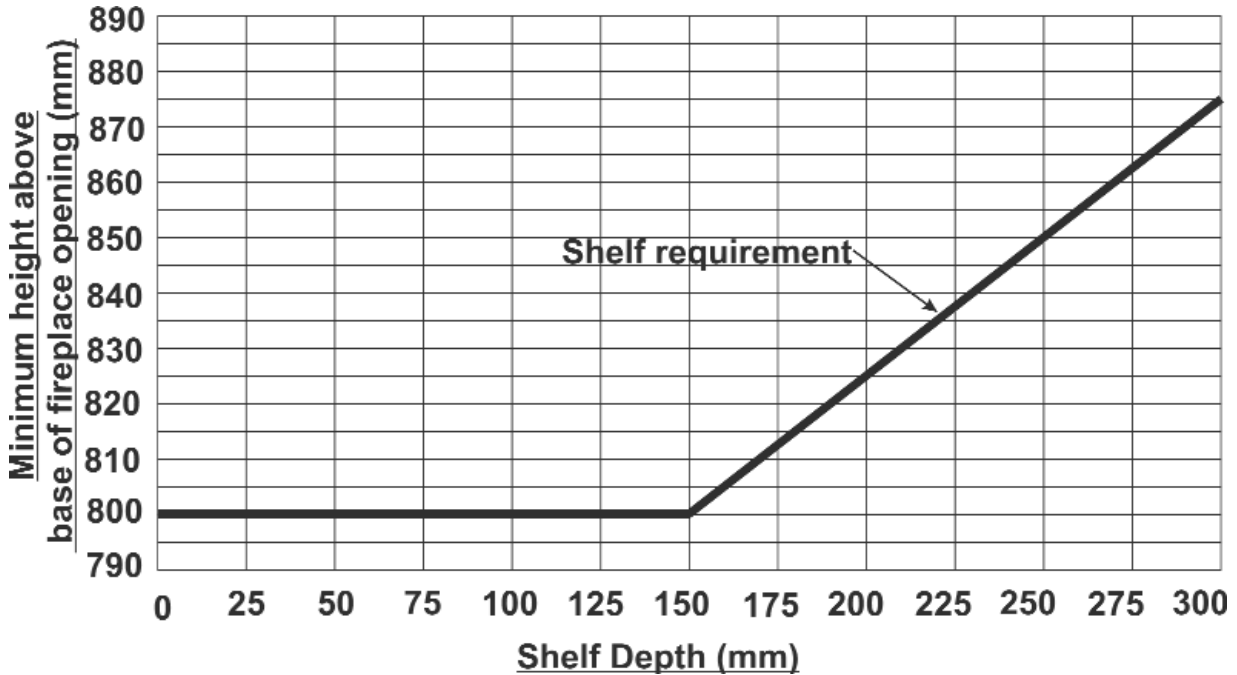
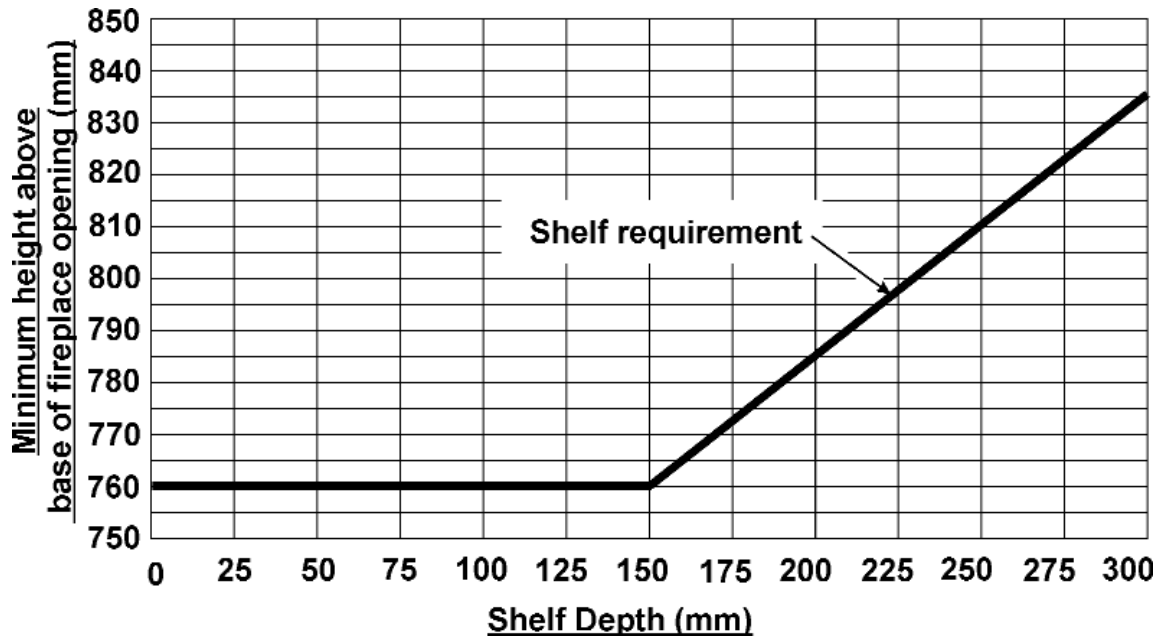

Figure 1. Combustible shelf clearances for ADORN model only
Figure 2. Combustible shelf clearances for VISAGE, DREAM, ETERNAL, DECADENT, OBSESSION and ICON models only.
**Do** provide a minimum clearance as shown in figure 1 (Adorn) or figure 2 (Visage, Dream, Eternal, Decadent, Obsession and Icon) above the base of the fireplace opening to any shelf made of wood or other combustible material. Please bear this in mind if you are making any alterations to the room.